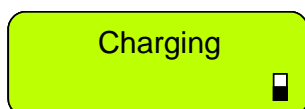

Figure 3.2
- When connecting the charger the following message (figure 3.2) will be displayed and the battery icon will continually move from empty to full to show the charging.